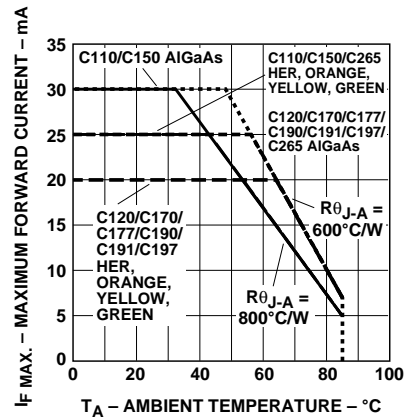

Figure 4. Maximum Forward Current vs. Ambient Temperature.
- Derate linearly as shown in Figure 4 for temperature above 25°C .